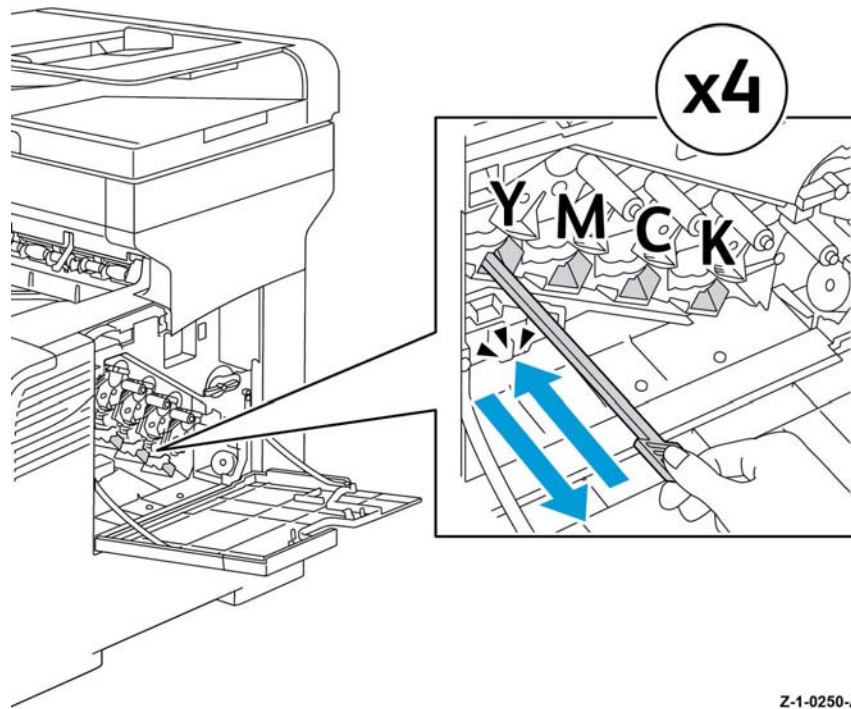

Figure 2 Cleaning the lenses
4. Insert the lens cleaner assembly into the cleaning hole of one of the 4 CRU xerographic development assemblies until it clicks, Figure 2.
- Slide the lens cleaner assembly back to front, it's full extent, inside the CRU xerographic development assembly, 2 or more times, Figure 2.